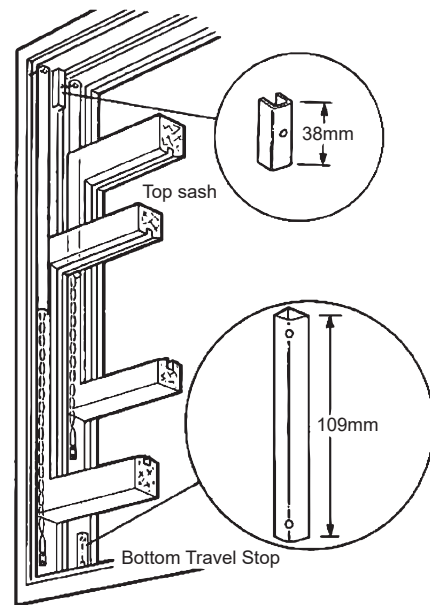

FIG 11
4) Fix travel stops provided, the shorter one at the top of the bottom sash run. (Fig 11)